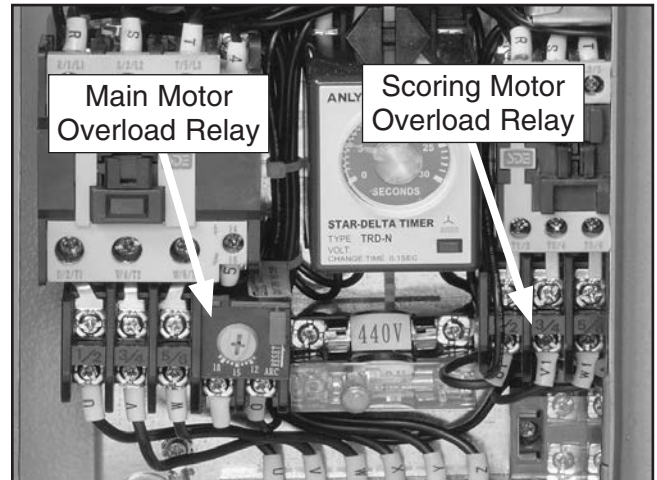

Figure 9. Motor overload relays.
4. Remove the main motor overload relay (**Figure 9**) and replace it with the overload relay from the 440V conversion kit. Turn the dial on the main motor overload relay to 9A.